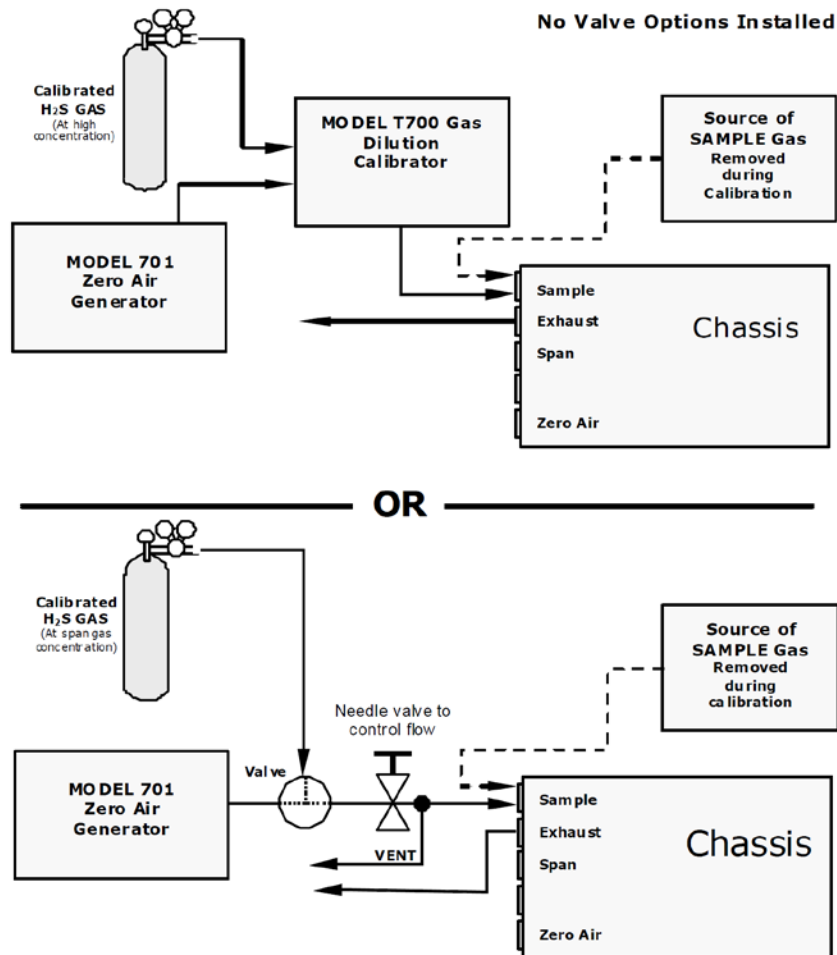

Figure 7.1 Setup for manual calibration
7.2.1 Connect the sources of zero and span gas as shown below. The model 701 zero air generator can be replaced by a zero air cylinder. Figure 7.1 shows